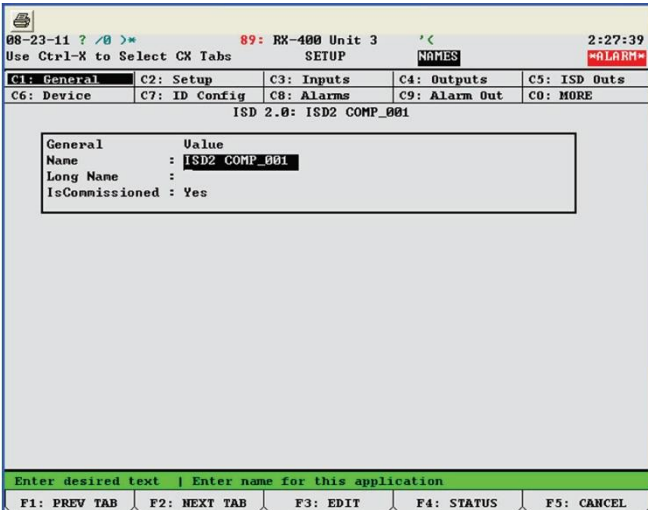

Figure 20 - ISD Setup Screen (General Tab)
- The E2 screen should look like **Figure 20**.